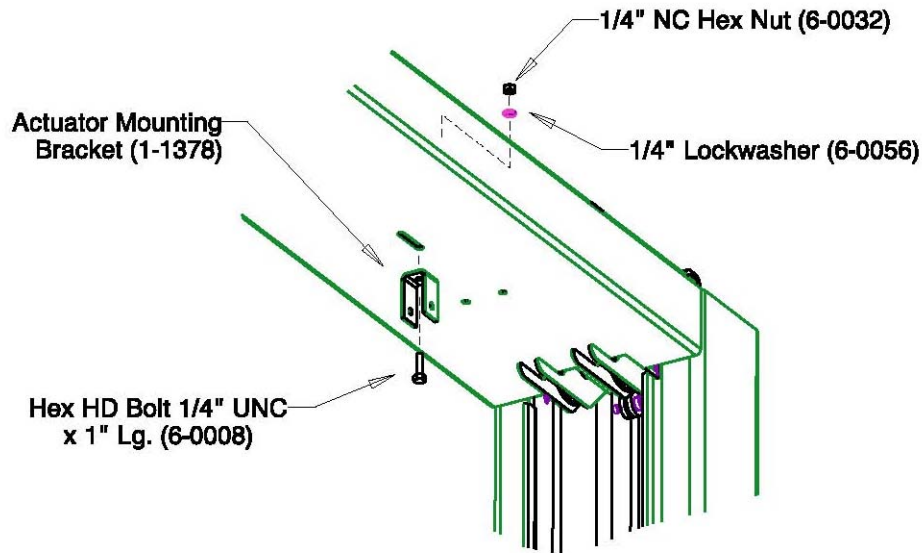

Figure 7: Actuator Mounting Bracket
1. Attach the Actuator Mounting Bracket to the crossmember using one (1) 1/4"-NC x 1" lg. hex head bolt, one (1) 1/4"ID lockwasher, and one (1) 1/4" NC hex nut. The mounting bracket should be installed in one of center slots at either end of the crossmember. (**Figure 7**)